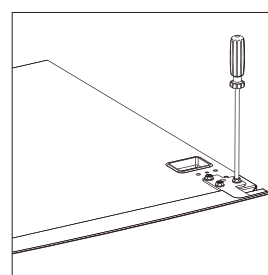

Fig. 5
- ▶ Unscrew the three retaining screws on the perforated hinge plate and remove the hinge from the refrigerator door (2) (Fig. 5). Remove the washer as well and place them safely to one side for use later.
- ▶ Lift the refrigerator door (2) off the middle hinge and place it to one side on a soft surface to avoid scratches and secure it against falling over.